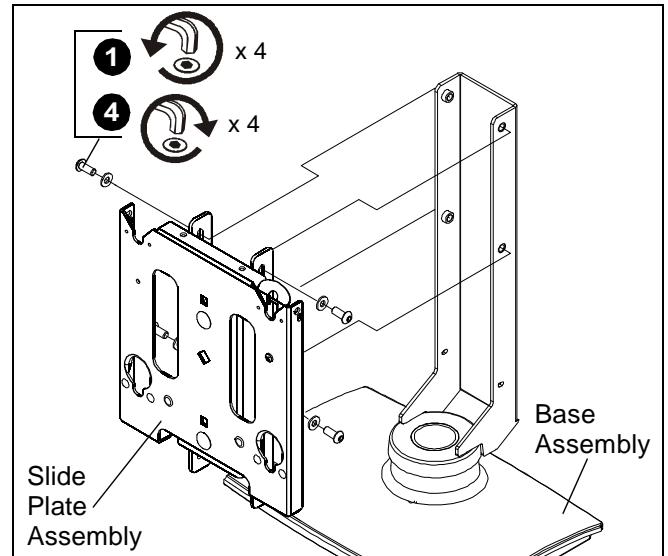

Figure 3
1. Remove slide plate assembly from the base by removing four 5/16-18 x 3/4" button head cap screws, and four 1/4" flat washers. (See Figure 3)
4. Reinstall slide plate assembly onto base using four 5/16-18 x 3/4" button head cap screws and four 1/4" flat washers previously removed in Step 1. (See Figure 3)